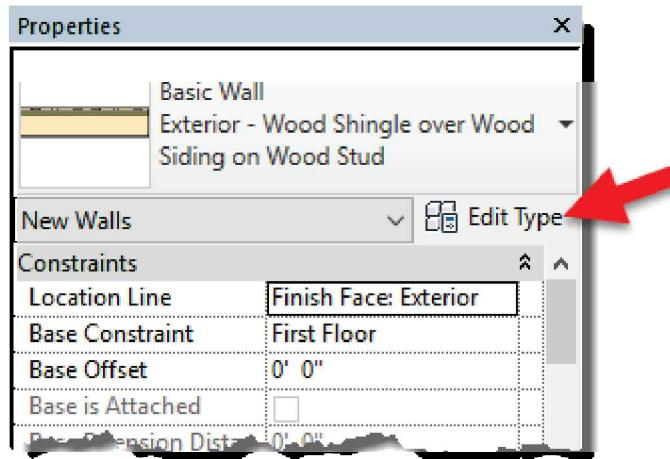

FIGURE 5-2.10 Edit Type button
20. Click the **Edit Type** button on the *Properties Palette* (Figure 5-2.10).